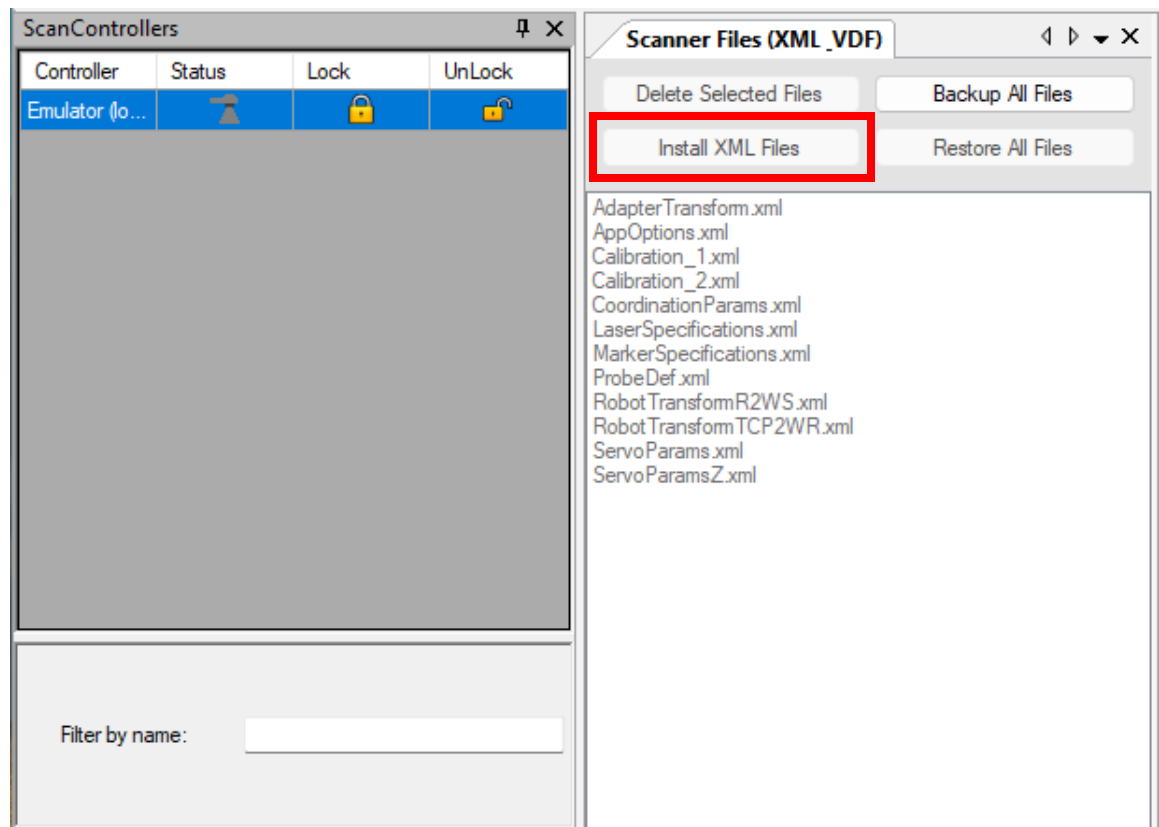

Figure 387: Installing a LaserSpecification File
2. Click "Install XML Files." See Figure 387 (below).